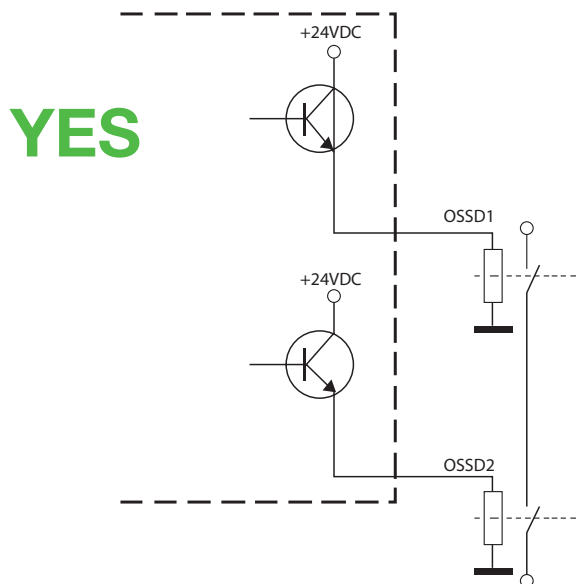

Fig.16
- The OSSD1 and OSSD2 safety contacts cannot be connected in series or in parallel, but can be used separately (Fig.16).